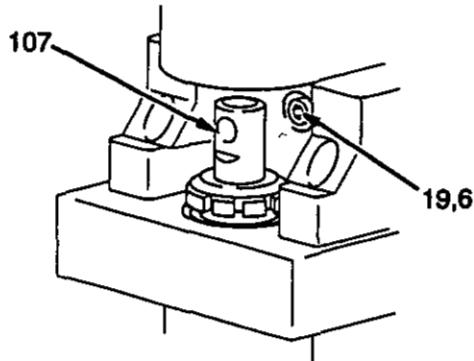

Fig 26
**NOTE 2:** Stop the sprayer at the bottom of its stroke to get the crank (12) in the lowest position. To manually lower the crank, rotate the blades of the motor fan with a screwdriver.
1. Remove the drive housing (11). See Steps 1 to 5, page 26.
2. Rotate the blades of the motor fan to raise the crank (12). Turn the displacement pump rod (107) so the pin hole aligns with the bottom screw (19), which gives access to that screw. See Fig 26.
3. Remove the three drive housing screws (19) and two motor screws (5) and their lockwashers (6).
4. Tap the lower rear of the drive housing (11) with a plastic mallet to loosen the motor. Pull the drive housing straight off the motor while guiding the harness (A) from the motor.